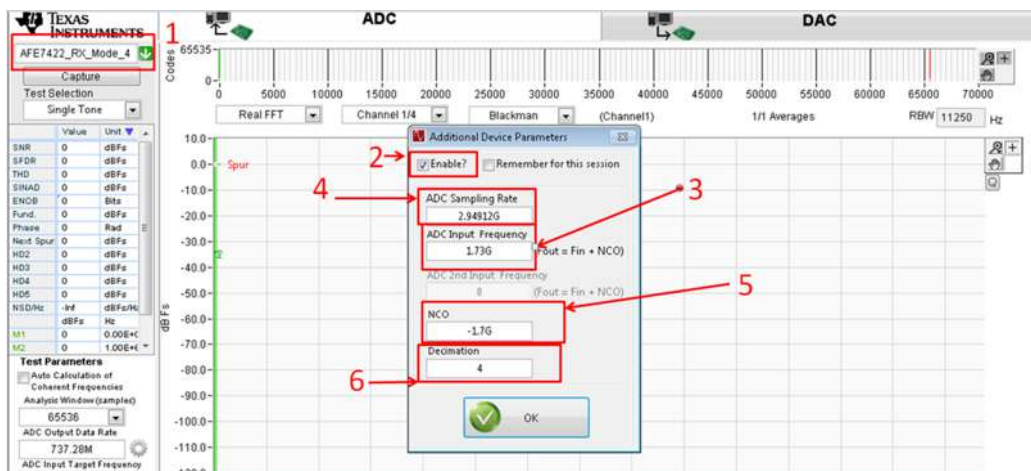

Figure 21. HSDC Pro ADC Settings
1. Switch back to the HSDC Pro window, select the ADC tab, and select the *AFE74xx_RX_Mode_4* file, shown as label 1 in Figure 21.
- a. Check the enable box (label 2 in Figure 21)
- b. ADC Sampling Rate = 2.94912G (label 3 in Figure 21)
- c. ADC Input Frequency = 1.73G (label 4 in Figure 21)
- d. NCO = -1.7G (label 5 in Figure 21)
- e. Decimation = 4 (label 6 in Figure 21)
5. Click the *Capture* button located below the displayed ini file in Figure 21)